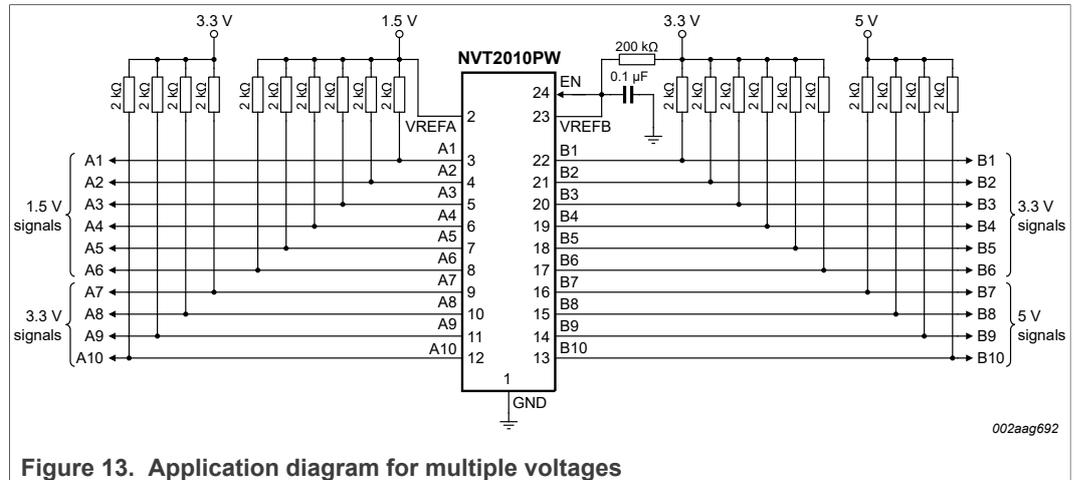

Figure 13. Application diagram for multiple voltages
- Answer:** As shown in Figure 13, to protect the 1.5 V parts the $V_{CC(A)}$ must stay at 1.5 V and you will have to rely on the 3.3 V pull-up on the A side and the 5 V pull-up on the B side to get the HIGH levels since the path will be essentially cut off above 1.5 V. It is possible to mix the voltages as proposed but the $V_{CC(A)}$ must be 1.5 V and the resistors on both the 3.3 V and 5 V sides determine the HIGHS with the LOW being passed through the NVT2010 (1.5 V pull-up resistor on A side is optional).